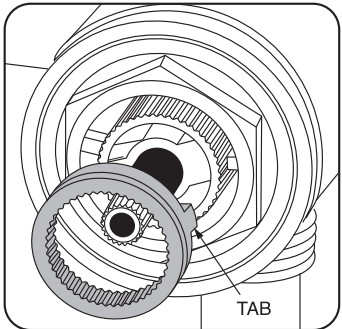

Figure 4
3. Note the stop tab on the bottom of the ring (see Figure 4). The further it is reoriented in a counter-clockwise direction, the shorter the travel allowed (and thus, the lower the temperature output possible). Important: before re-orienting the ring, be sure the stem is in the full “OFF” position.